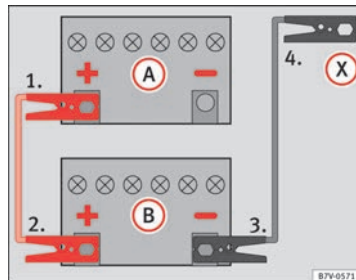

Fig. 219 Diagram of connections for vehicles without Start Stop system
2. Connect one end of the *red* jump lead to the positive (+) terminal of the vehicle with the flat battery (A) ⇒ Fig. 219.
3. Connect the other end of the *red* jump lead to the positive terminal (+) in the vehicle providing assistance (B).
4. **For vehicles without Start-Stop system:** Connect one end of the *black* jump lead to the negative terminal (-) of the vehicle providing assistance (B) ⇒ Fig. 219.